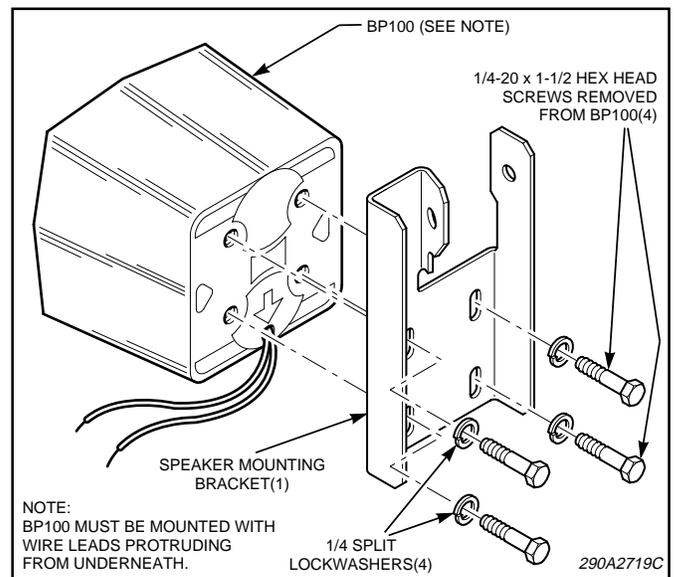

Figure 1.
2. Assemble the speaker mounting bracket to the speaker using four 1/4" split lockwashers and the previously removed screws as shown in figure 1. Do not tighten the screws at this time.